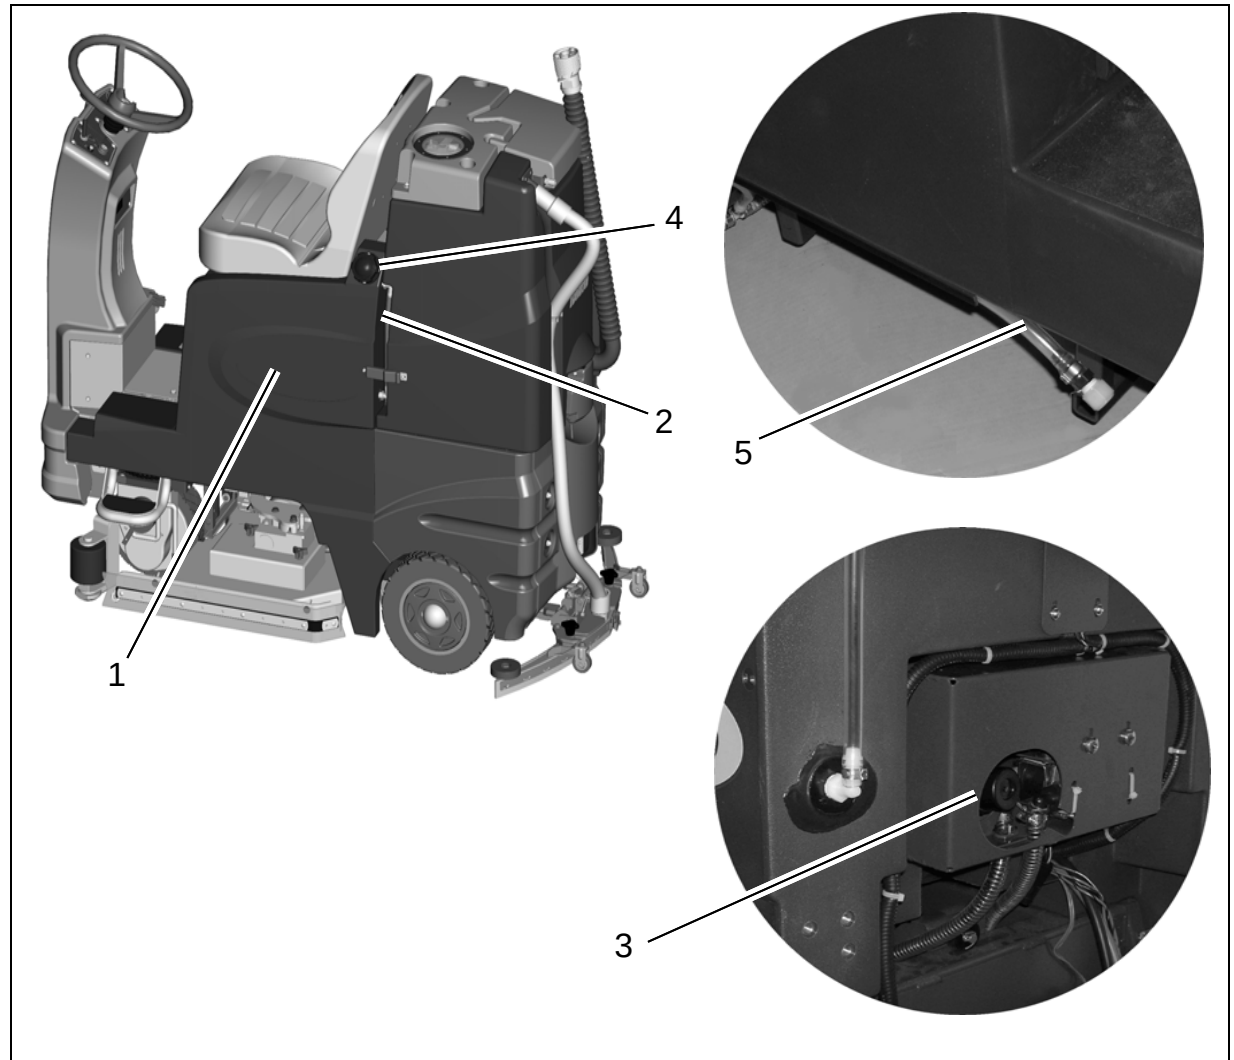

Fig.13
Fill solution tank (Fig. 13/1) before work or as required. Park machine on level ground. Open fill port (Fig. 13/4) and fill tank up to the maximum (1/1 marker) on the sight gauge (Fig. 13/2).
Park machine such that the solution tank drain hose (Fig. 13/5) is located above the drain aperture in the floor. Take tank drain hose from holder and remove cap.
Check solution filter (Fig. 13/3) at weekly intervals and clean or replace if required.
1. Empty solution tank (Fig. 13/1), see paragraph 7.5.2.